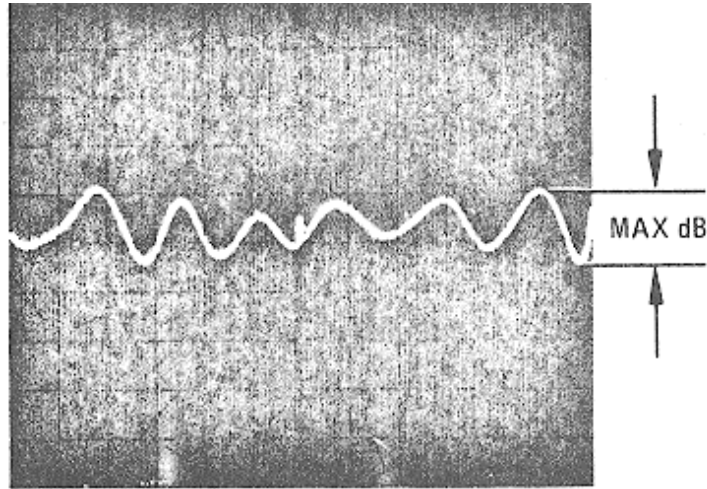

Figure 13. TEST Port Open/Short Ratio Magnitude >2 MHz
(2) Measure the maximum peak-to-peak variation on the display (Figure 13) and record the results: